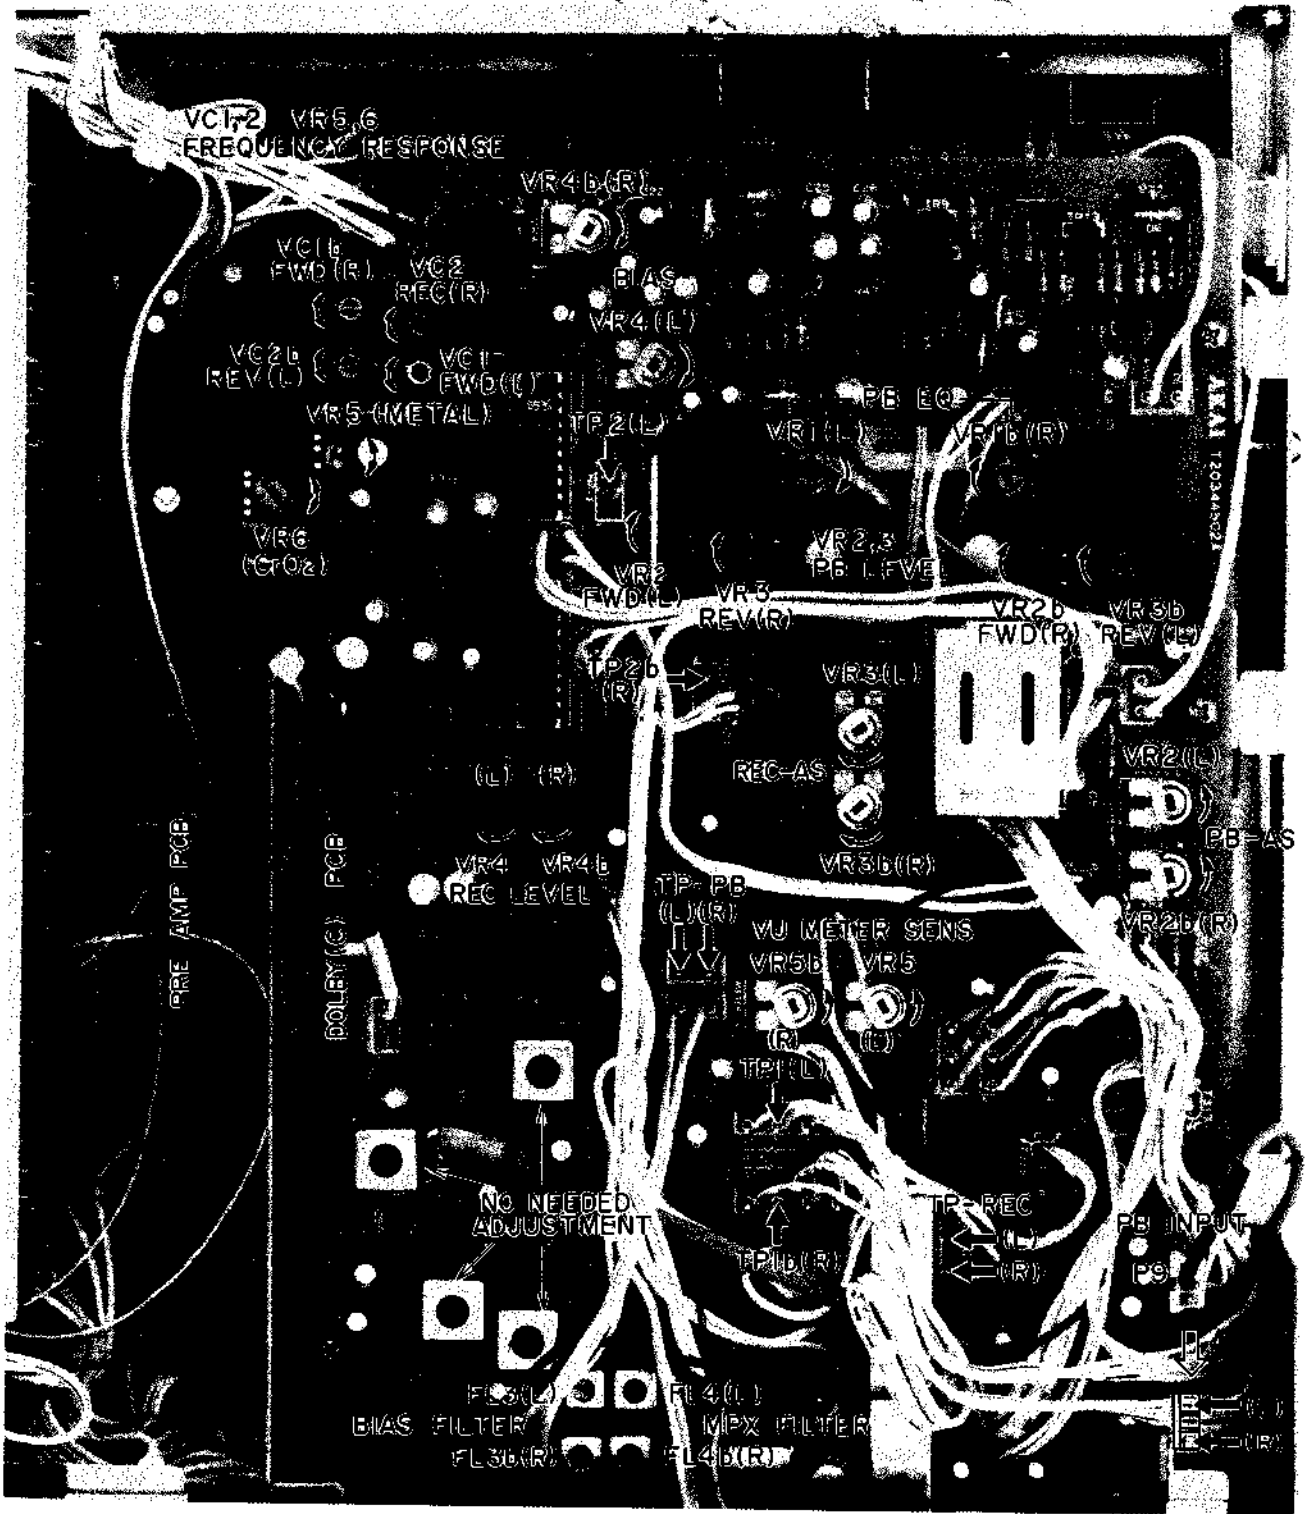

Fig. 28 Amplifier Adjustment
## 3. DOLBY ADJUSTMENT (Refer to Fig. 28 Dolby (C) PCB)